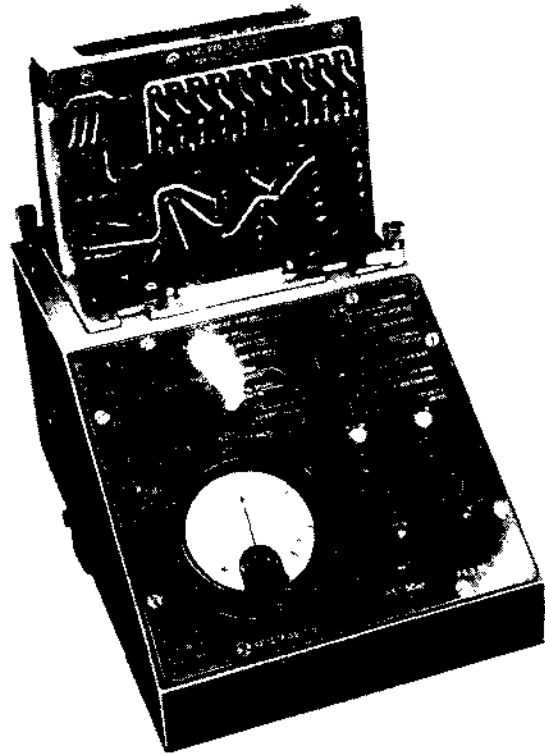
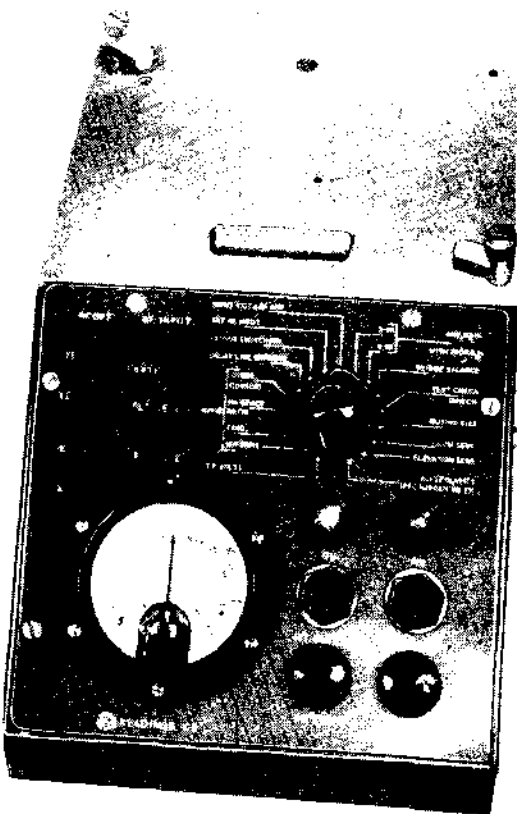

Fig. 4. Test set Type 11865 with amplifying unit fitted
Fig. 3. Test set Type 11865 — general view
4. The test set Type 11865 is for testing the amplifying unit (A.F.) Type 11678. A general view of the test set is given in fig. 3. The amplifying unit to be tested should be fitted to the top of the test set (fig. 4) and the test set connected by a connector Type 3430/1 to a power unit No. 2. The power unit No. 2 is a mains operated piece of test equipment used also when testing